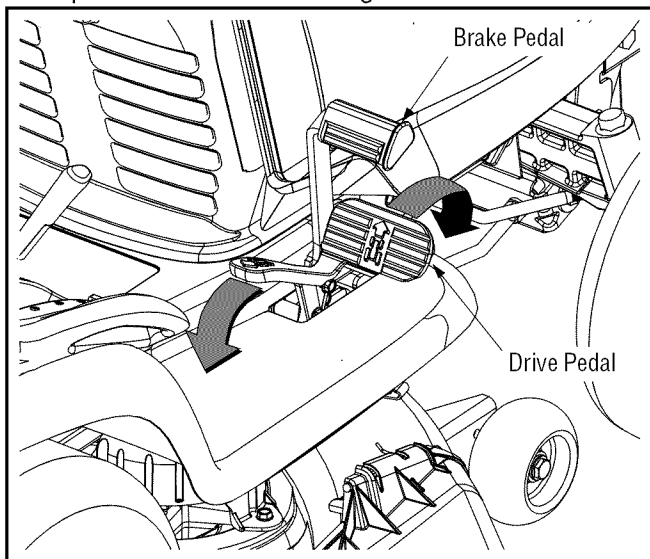

Figure 5
- To travel FORWARD, slowly depress the upper portion of the drive pedal forward until the desired speed is achieved. See Figure 5.
- To travel in REVERSE, check that the area behind is clear then slowly depress the lower portion of the drive pedal with the ball of your foot (NOT your heel) until the desired speed is achieved. See Figure 5.